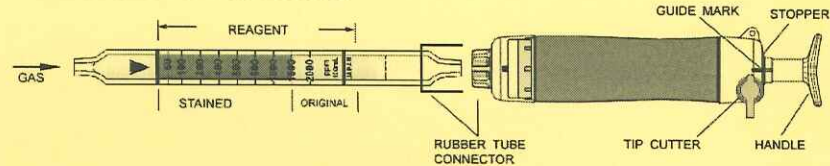

Fig.1
- ① Break both ends of the detector tube.
- ② Insert the detector tube into the aspirating pump securely as shown in Fig.1. (Arrow mark shall point to the pump.)
- ③ Align the guide marks on the shaft and stopper of the aspirating pump.
- ④ Pull the pump handle at a full stroke until it locks and wait for 1.5 minutes or until the completion of sampling is confirmed with the flow indicator of the pump. (See descriptions about the flow indicator in the instruction manual of the pump.)
- ⑤ On completion of sampling, read the scale at the maximum point of the stained layer.
- ⑥ In case of 2 pump strokes, push back the handle without removing the detector tube from the rubber tube connector so that air in the pump will be discharged perfectly. Then repeat the step ③~④ once more.
- ⑦ In this case, read the scale at the maximum point of the stained layer and then multiply the reading value by 0.4 after temperature correction undermentioned. (REFER TO ITEM 3. CORRECTION FOR AMBIENT CONDITIONS.)
- ⑧ If the discolouration is over the full scale (2000ppm), a 1/2 (50mL) pump stroke sampling is available. Insert the new detector tube into the pump inlet and pull the pump handle at a 1/2 pump stroke (to 50mL line), and it will be automatically locked. Leave it for 45 seconds as it is.
- ⑨ Remove the detector tube from the pump and read the scale at the maximum point of the stained layer.
- ⑩ Then multiply the reading value by 2.5 after temperature correction undermentioned. (REFER TO ITEM 3. CORRECTION FOR AMBIENT CONDITIONS.)